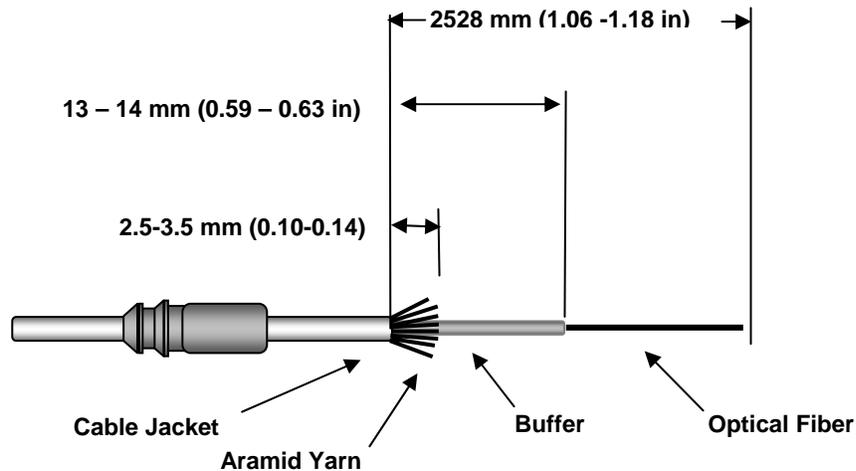
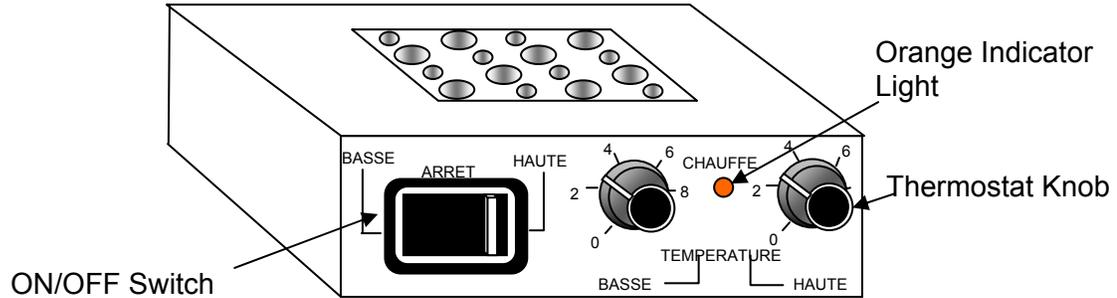

Figure 7-23 – “Tight” Structure Cable Stripping Dimensions for 801 TM and 801 TS Termini
Figure 7-24 – Epoxy Curing Oven
- Step 3 - Mark the “Tight” Structure cable outer jacket 25 mm (1.06 in) - 28 mm (1.18 in) . See Figure 7-23.
Step 6 - Put on safety glasses and mark the buffer, for the correct type of termini and cable type being terminated. Refer to Figure 7-23 for “Loose” Structure cable and termini (801 LM / 801 LS) and refer to Figure 7-24 for “Tight” Structure cable and termini (801 TM / 801 TS). Remove the fiber buffer and coatings back to the mark on the buffer, using the buffer stripper. Remove the buffer and coating in small sections approximately 6 mm (0.25 in) at a time.
- Step 1 - Plug in the curing oven. Turn the oven on (Haute Position) and turn the thermostat knob to position 3. Place a thermometer in one of the oven ports. Verify that the orange indicator light is illuminated. See Figure 7-24.